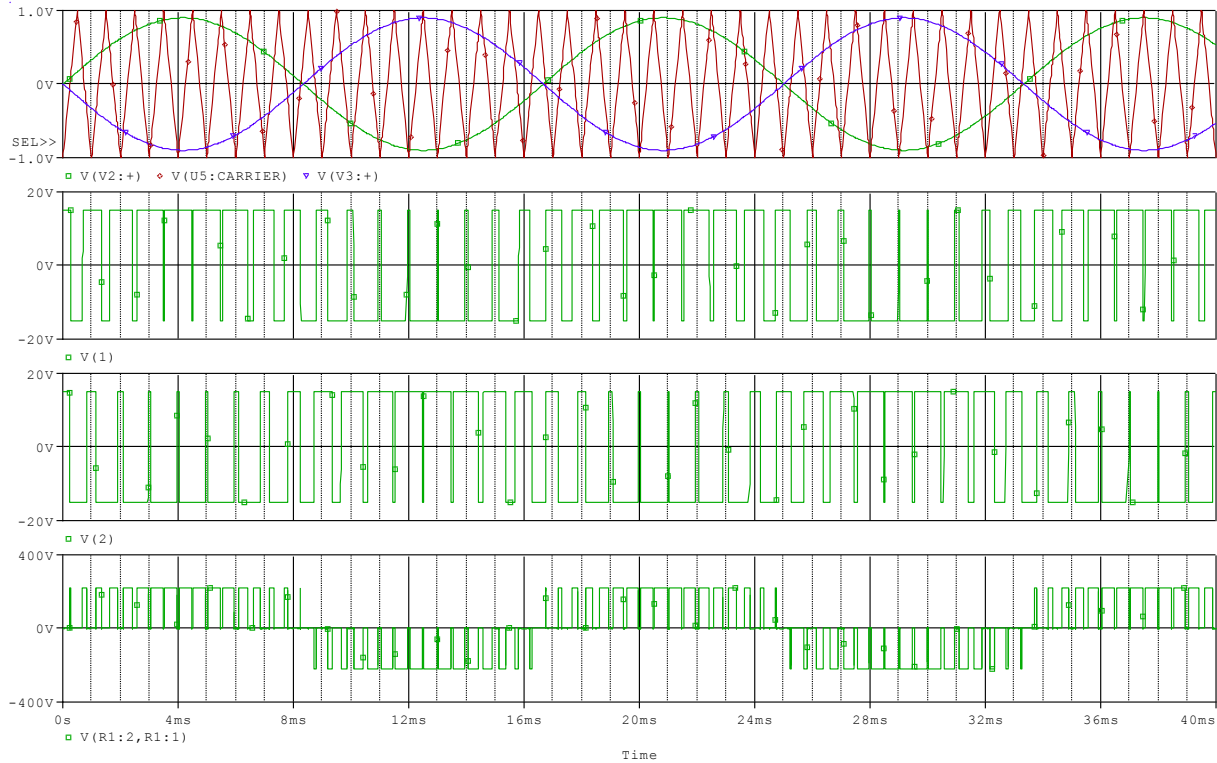

Figure 7
4. Plot reference voltages, carrier wave, gate signals, and load voltage. Reproduce Figure 7.